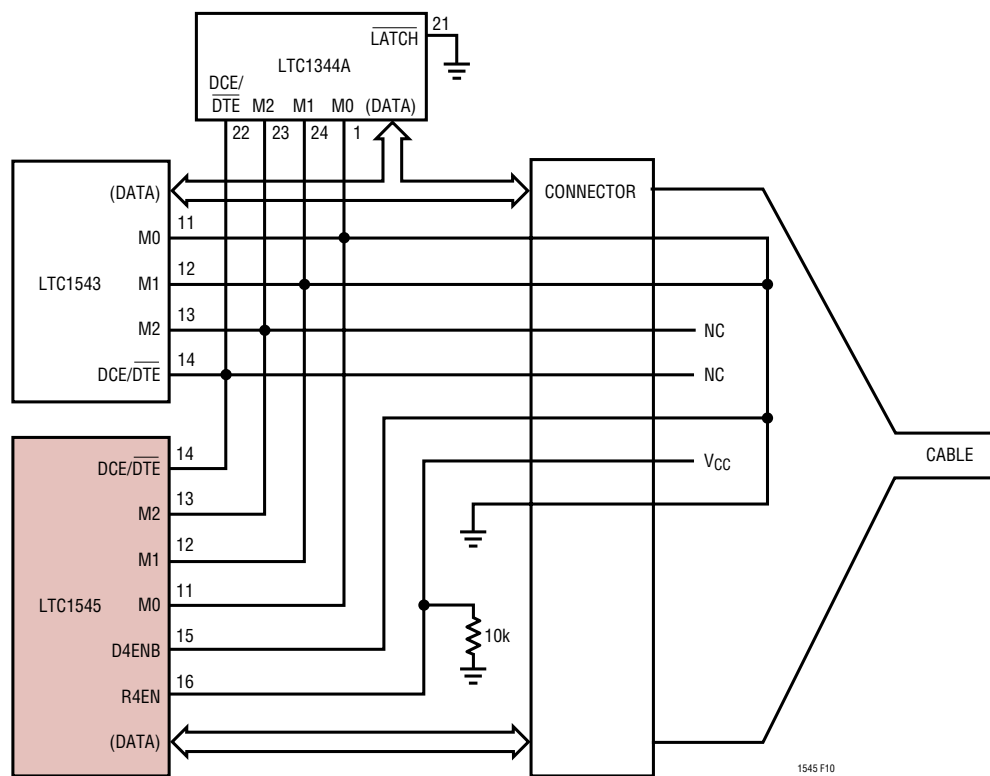

Figure 10: Single Port DCE V.35 Mode Selection in the Cable
The interface protocol may be selected simply by plugging the appropriate interface cable into the connector. The mode pins are routed to the connector and are left unconnected (1) or wired to ground (0) in the cable as shown in Figure 10.